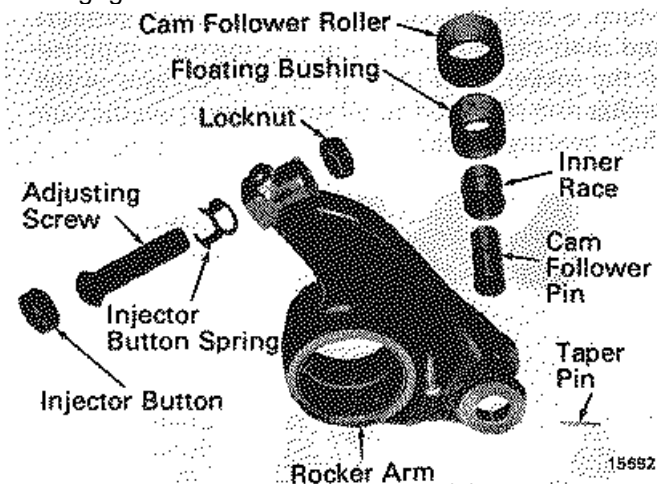

Fig.2-30-Injector Rocker Arm, Exploded View
1. Inspect the rocker arm bushings, cam follower rollers, inner race, Fig. 2-30, and rocker arm